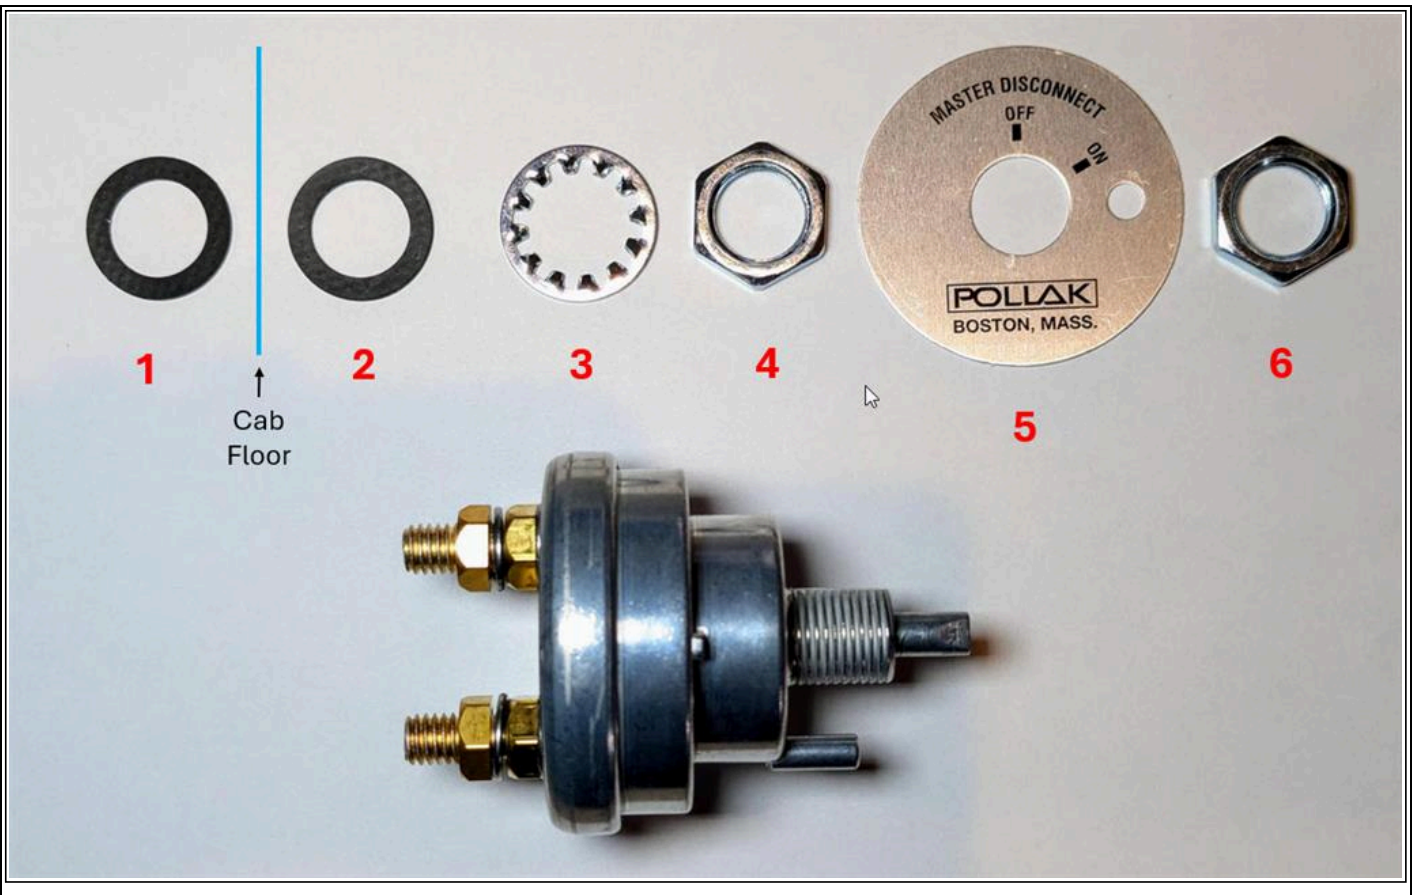

Figure 2: Battery Disconnect Switch Order of Installation
1. See **Figure 2** below for the order of installation.